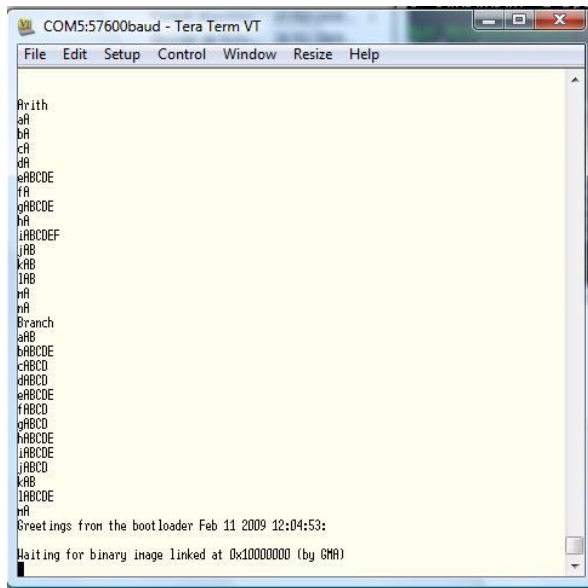

Figure 13 : Application output
8. After sending the binary file to be executed on the Plasma Processor, you should receive the program output. (Figure 13).